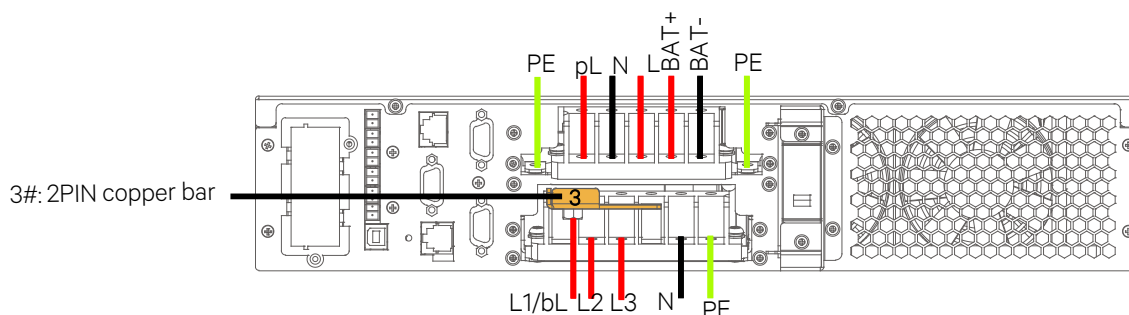

Figure 2-21 Wiring diagram (3-in 1-out, common input configuration)
Pass the mains input three-phase live wire through the cable hole of the junction box, and connect the live wire L1 to the shorting copper bar 3, live wires L2 and L3 to the terminals L2 and L3 shown in Figure 2-21. Pass the mains input N line and input PE line through the cable holes, and connect them to the input N line terminal (N), input PE terminal (PE) respectively, then fasten the fixing screws. See Figure 2-21.
5. As shown in Figure 2-21, pass the output live wire, output N line and output PE line through the cable entry holes of the junction box, and connect them to the output live wire terminal (L), output N line terminal (N) and output PE terminal (PE) respectively, then fasten the fixing screws.